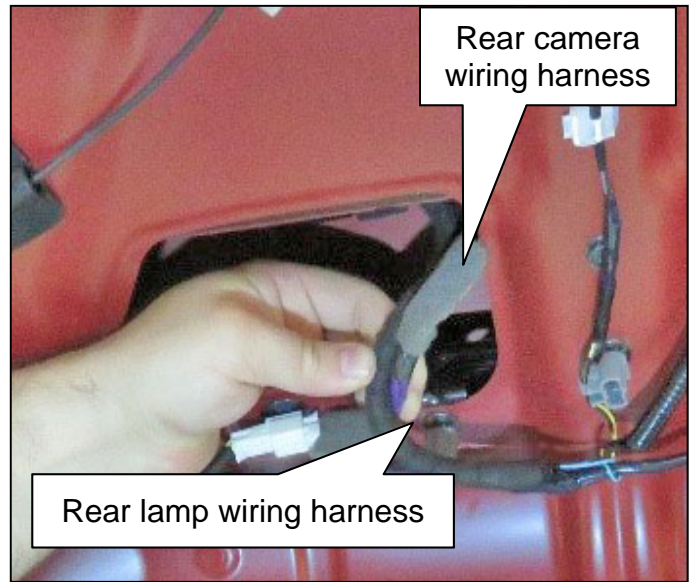

Figure 10
10. Grasp the rear camera wiring harness and the rear lamp wiring harness, and hold them together, as shown in Figure 10.